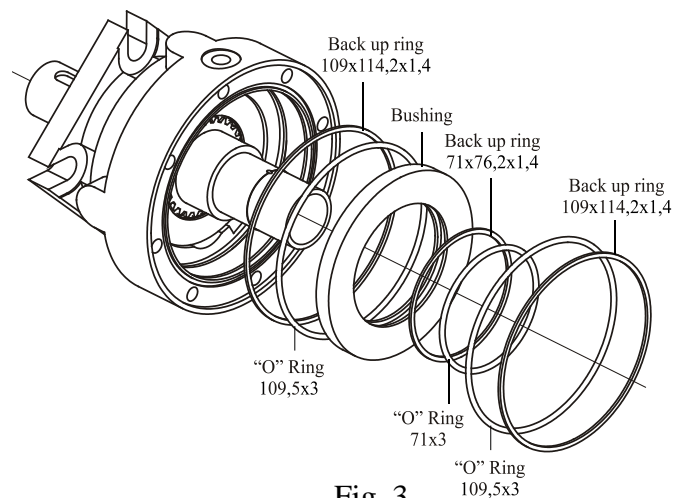

Fig. 3
6. Take the O-ring 109,5x3 and the Back up ring 109x114,2x1,4 out of housing groove (see Fig.3).
8. Take the O-ring 109,5x3 and the Back up ring 109x114,2x1,4 out of housing groove (see Fig.3).